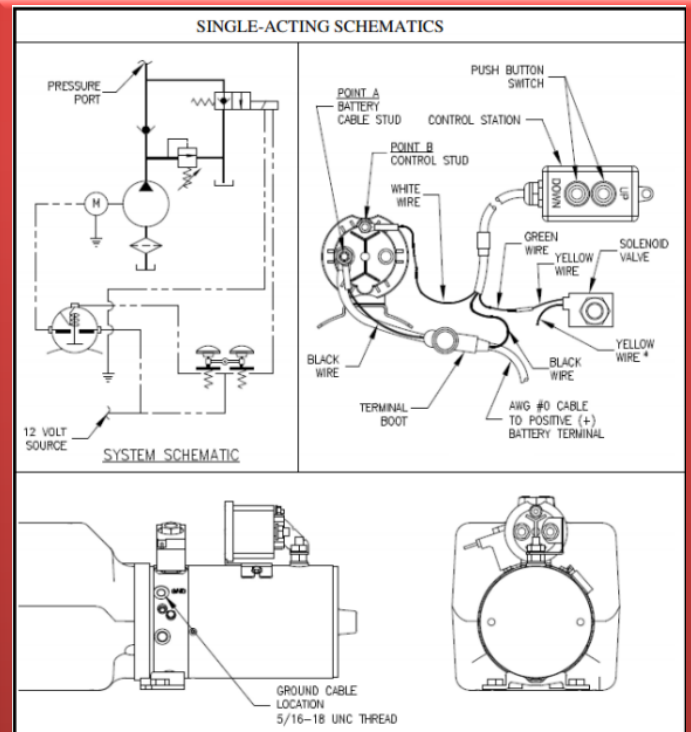

Figure 3: Single Acting Schematics
1. Route a negative #0 AWG cable from the battery to the power unit. Connect one end of the cable to the negative battery terminal. Connect the other end of the cable to the power unit's aluminum valve block with a 5/16"-18 x 3/4" hex cap screw as shown in **Figure 3**.
4. At the power unit, insert the supplied rubber terminal boot over the end of the cable and the black wire as shown in **Figure 3**.
5. Fasten the cable end and black wire to "Point A" on the solenoid start switch. Tighten to 35in/lbs. of torque. Snap the rubber terminal boot over the stud (Figure 3).
Exceeding the torque ratings for either stud can cause the unit to malfunction, leading to property damage, serious injury, or death. See Figure 3.